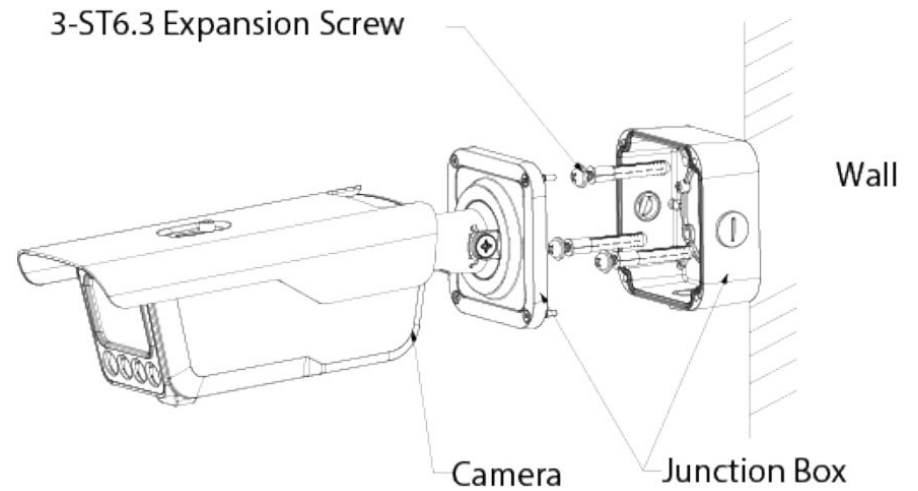

Figure 2-1
Step 1 Drill holes on the wall according to the holes on the junction box in Figure 2-1.